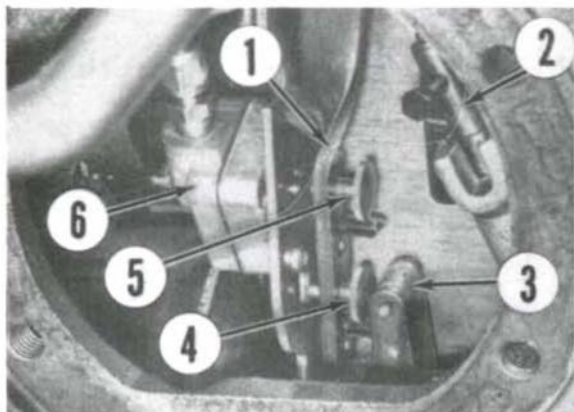

Fig. 181—View of lift housing through opening for response control cover. Refer to text for adjustments.
195. INSTALLED ADJUSTMENTS. The following adjustments should be performed with lift cover installed and tractor operational. Accomplish the adjustments in the sequence listed. Remove the response control cover plate from right side. Be sure that oil is maintained at level of lowest threaded mounting hole for response control cover making it necessary to temporarily reinstall the lower cap screw. Be sure that control valve adjusting screw (4—Fig. 181) and roller (3) are correctly installed. If pressure control type, adjusting screw (5) should be threaded into vertical lever (1), but should not contact diaphragm plunger.
NOTE: Be careful when positioning wedge and do not dislodge roller (3—Fig. 181) from control lever, or vertical lever (1) from its pivot pin.
When pressure is within limits, turn pressure control adjusting screw (5—Fig. 181) clockwise until vertical lever (1) begins to pulsate, then turn screw counterclockwise until pulsating stops and pressure does not fluctuate more than 700 kPa (100 psi).